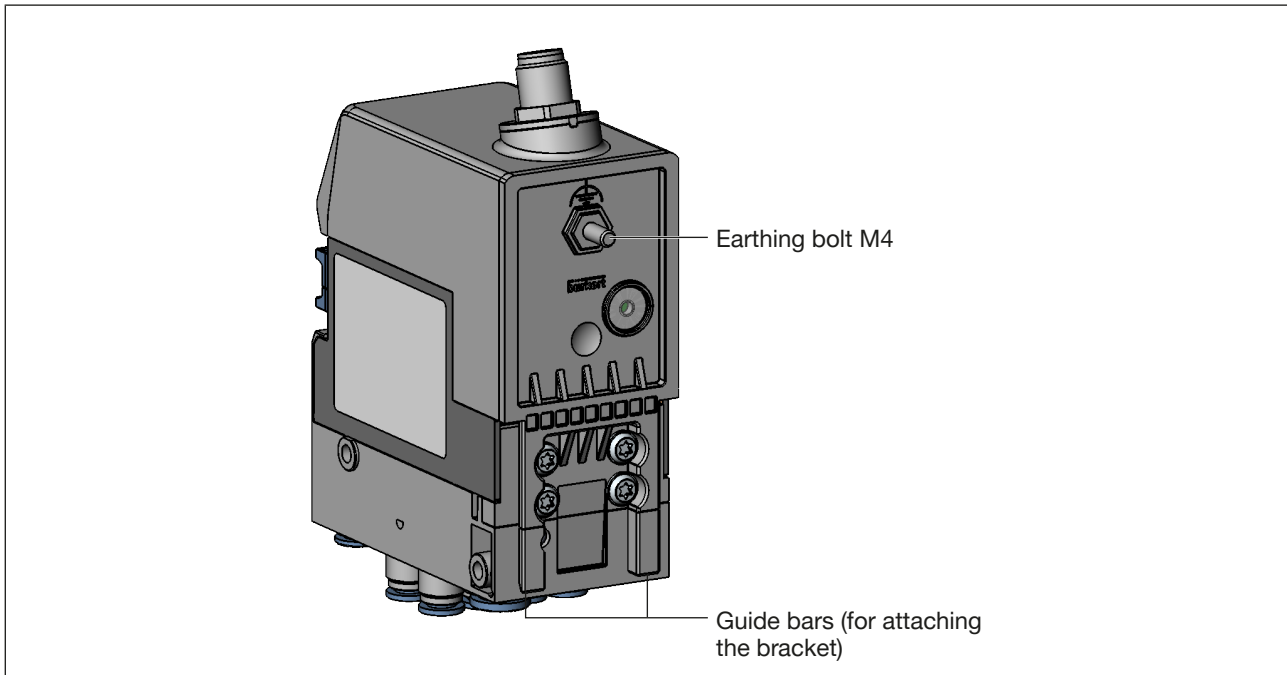
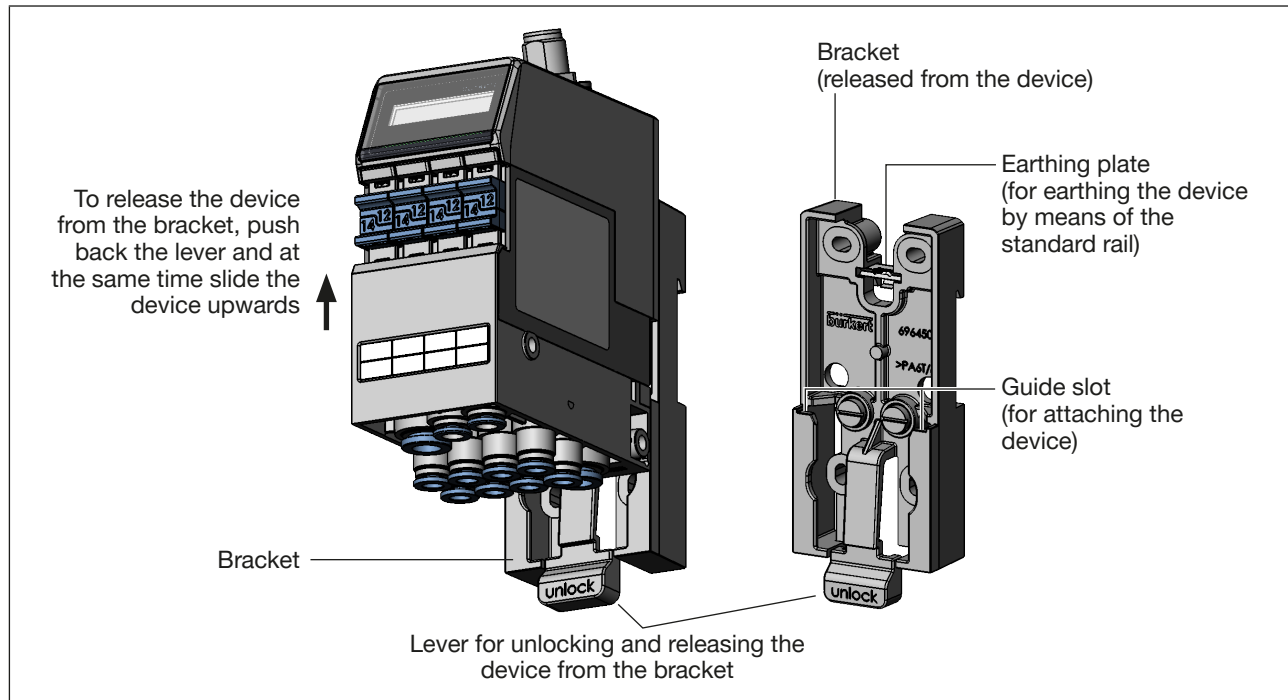

Fig. 3: Structure of AirLINE Field Type 8653 – view from behind (without bracket)
Fig. 4: Bracket for assembly on wall or on standard rail
- Slide the guide bars on the field module (see “Fig. 3”) from the top to the bottom into the guide slot of the bracket (see “Fig. 4”) until the locking mechanism engages audibly.